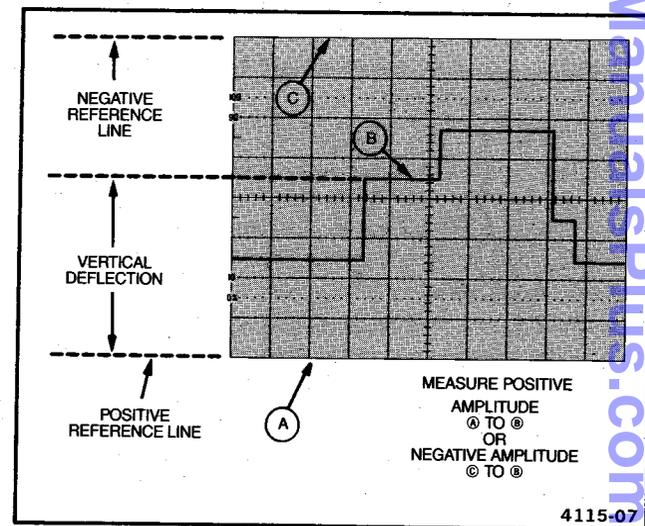

Figure 3-2. Instantaneous voltage measurement.
- Measure the divisions of vertical deflection between the ground reference line and the point on the waveform at which the level is to be determined (see Figure 3-2).
**EXAMPLE.** In Figure 3-2, the measured vertical deflection from the reference line is 4.5 divisions, and the waveform point is above the reference line. A 10X attenuator probe is being used, and the VOLTS/DIV switch is set to 2 V (10X PROBE).